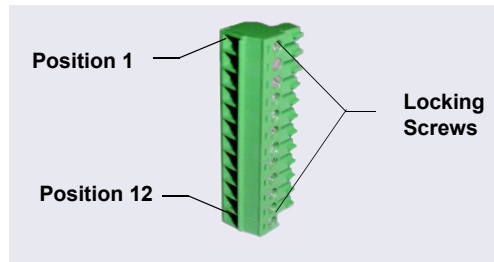

Figure 2-34. 12-Position Connector Plug
1. Locate the twisted pair of wires (P/N 043598) and 12-position connector plugs (P/N 923686) (see Figure 2-34) provided with the I/O option board.